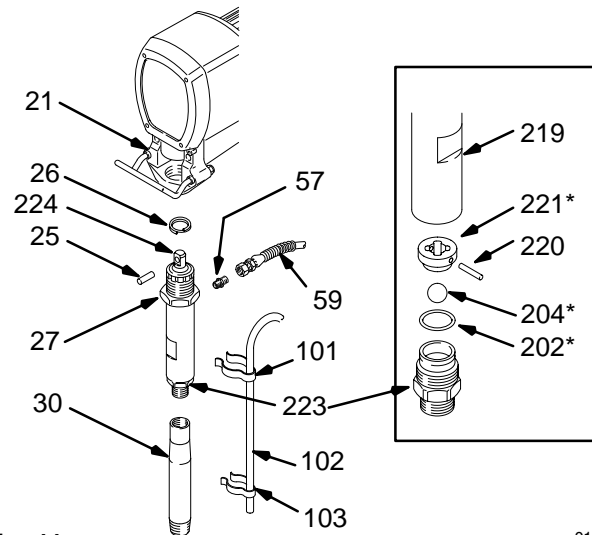

Fig. 11
## Removing the pump See Fig. 11.
1. Unscrew the intake valve (223) and remove all parts. See Fig. 11.
9. Assemble and install the intake valve. Use a **new** gasket (202\*). Tighten the valve to 67 ft-lb (90 N.m). See Fig. 11.